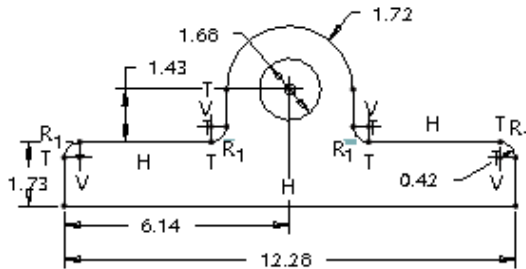

Figure 3-40 Sketch after dimensioning
- d. Dimension the sketch, refer to Figure 3-40.
2. Dimension the sketch, as shown in Figure 3-40.